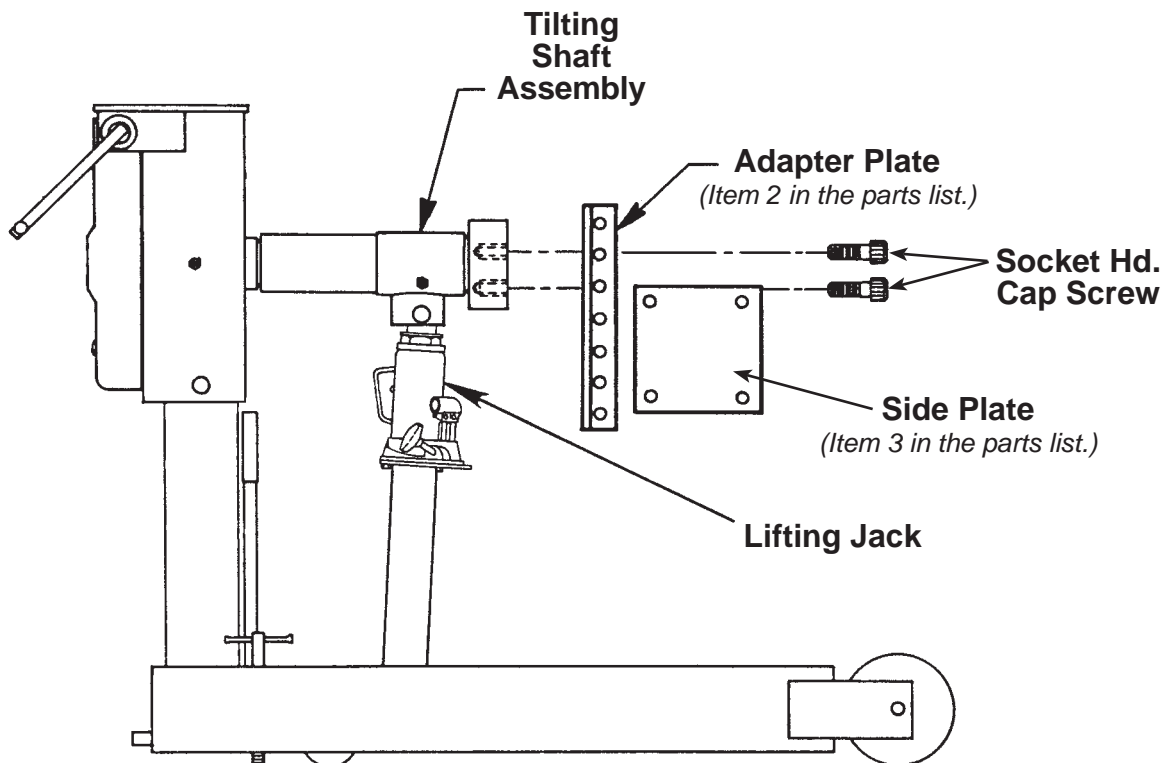

Figure 1
1. Mount the engine adapter to OTC No. 1750 or 1750A Heavy-Duty Engine Repair Stand using the three 1–8 UNC socket head cap screws included with the engine repair stand. See Figure 1.